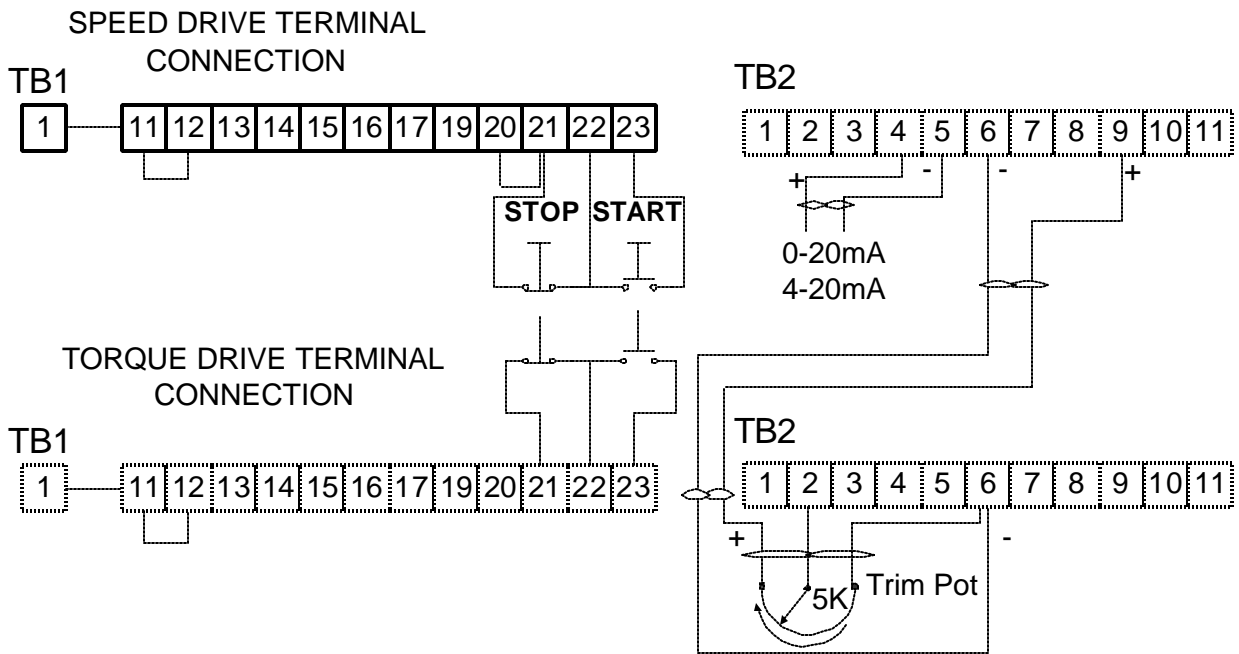

Figure 5.2.1b. Terminals Connection using 0-20mA or 4-20mA for section 5.2.1b
- ? If you want to adjust the output torque externally than set **P312**, "Internal" Torque" to **100%** and connect a 5K trim pot as shown figure 5.2.1b.